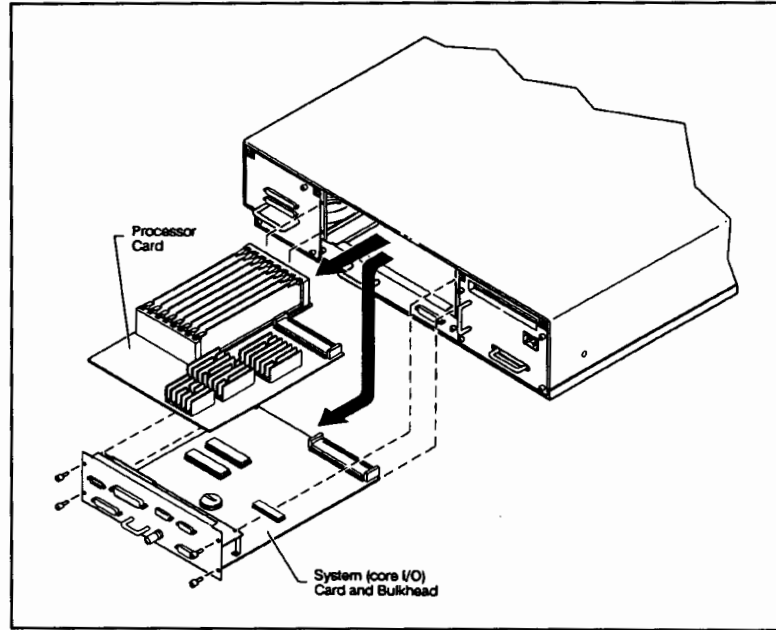

Figure 5-3. Processor Card Removal
- 5). Remove the Processor Card from the top slot of the System Unit cabinet as shown in Figure 5-3.
- 3). Remove the Processor Card from the top slot of the System Unit cabinet as shown in Figure 5-3.